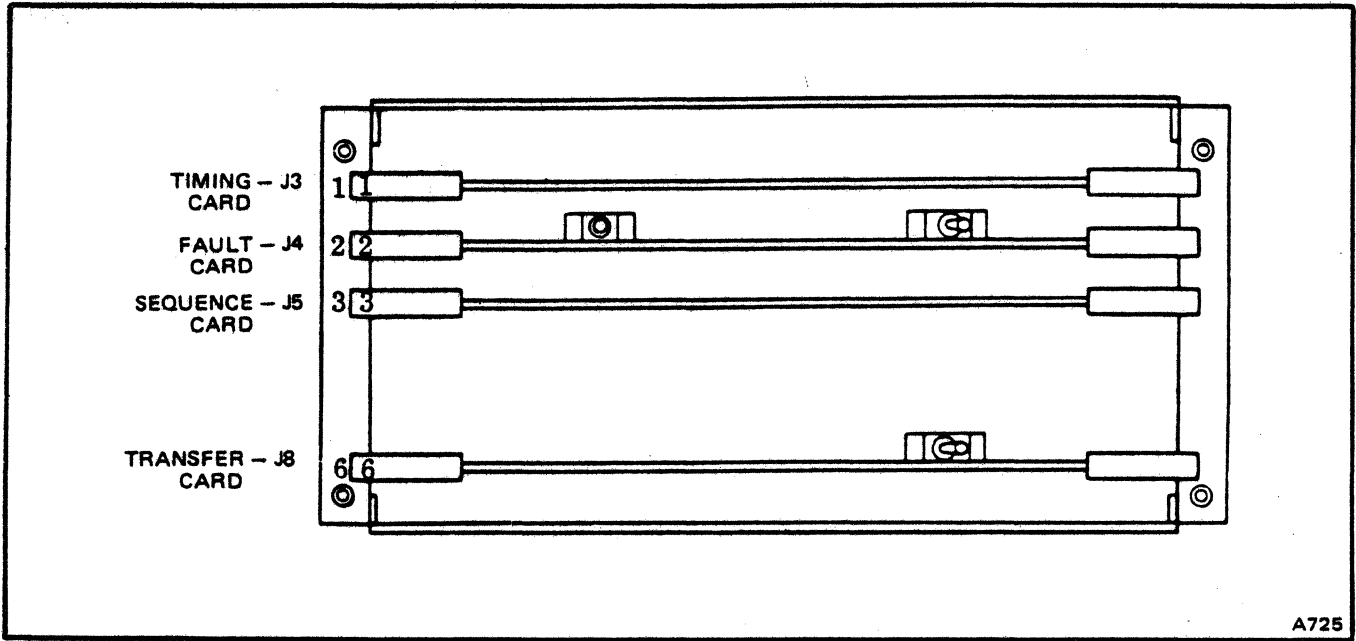

Figure 4-36. Card File Logic Card Locations
- p. Install logic cards in card file (Figure 4-36).
- b. Remove transfer card from card cage (Figure 4-36). Install transfer card on card extender and install in card cage (J8).